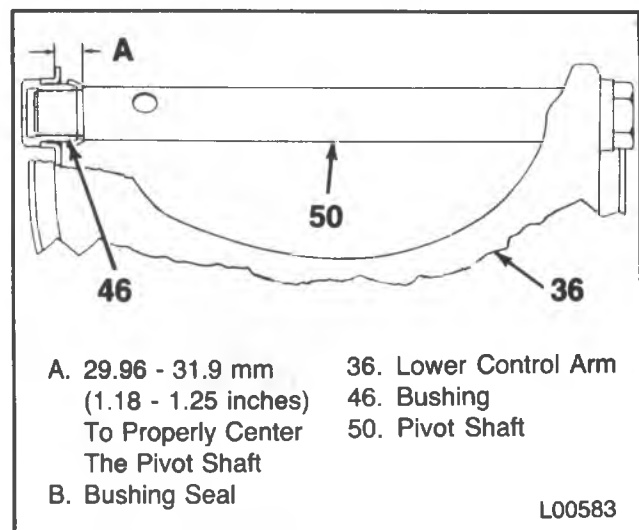

Figure 32 — Centering the Lower Control Arm Shaft (R-P20/2500, 30/3500 and G30/3500 Models)
3. Bushings (46).
- Center the shaft in the lower control arm (figure 32).
- Bushings (46) to 379 N•m (280 ft. lbs.).
- Pivot shaft (50) for free rotation.
4. Grease fitting (12).
5. Lower control arm (36) to the frame crossmember.
- SLOWLY raise the floor jack until the lower control arm (36) is in position.